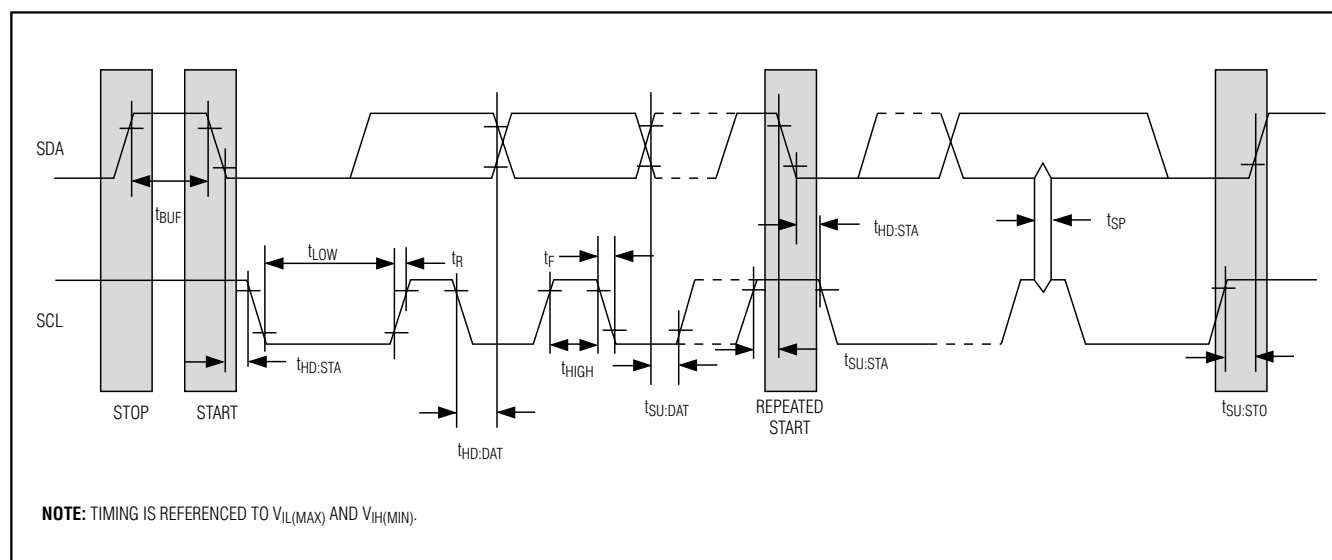

Figure 14. I2C Timing Diagram
**Start condition:** A start condition is generated by the master to initiate a new data transfer with a slave. Transitioning SDA from high to low while SCL remains high generates a start condition. See Figure 14 for applicable timing.
**Stop condition:** A stop condition is generated by the master to end a data transfer with a slave. Transitioning SDA from low to high while SCL remains high generates a stop condition. See Figure 14 for applicable timing.
**Repeated start condition:** The master can use a repeated start condition at the end of one data transfer to indicate that it will immediately initiate a new data transfer following the current one. Repeated starts are commonly used during read operations to identify a specific memory address to begin a data transfer. A repeated start condition is issued identically to a normal start condition. See Figure 14 for applicable timing.
**Bit write:** Transitions of SDA must occur during the low state of SCL. The data on SDA must remain valid and unchanged during the entire high pulse of SCL plus the setup and hold time requirements (Figure 14). Data is shifted into the device during the rising edge of the SCL.
**Bit read:** At the end of a write operation, the master must release the SDA bus line for the proper amount of setup time (Figure 14) before the next rising edge of SCL during a bit read. The device shifts out each bit of data on SDA at the falling edge of the previous SCL pulse and the data bit is valid at the rising edge of the current SCL pulse. Remember that the master generates all SCL clock pulses including when it is reading bits from the slave.
**Acknowledgement (ACK and NACK):** An Acknowledgement (ACK) or Not Acknowledge (NACK) is always the 9th bit transmitted during a byte transfer. The device receiving data (the master during a read or the slave during a write operation) performs an ACK by transmitting a zero during the 9th bit. A device performs a NACK by transmitting a one during the 9th bit. Timing (Figure 14) for the ACK and NACK is identical to all other bit writes. An ACK is the acknowledgment that the device is properly receiving data. A NACK is used to terminate a read sequence or as an indication that the device is not receiving data.